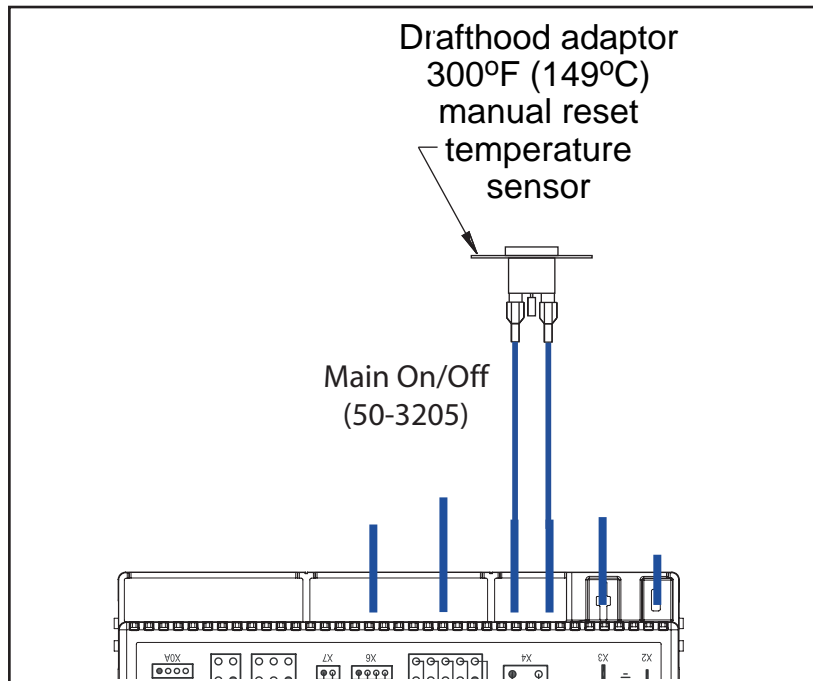

Figure 45: Wiring Diagram for Electrical Connection.
3. Being careful not to run any wiring tight across metal edges; connect them to the valve and "ON/OFF" switch (refer to Figure 45).
The fireplace connections are labelled in Figure 45. When installing the Drafhhood Adaptor onto a fireplace fitted with an intermittent pilot system, remove the Main On/Off wire loop from the IFC and replace it with the drafhhood adaptor wires as shown.
2. Disconnect the spill switch wires from the valve and on/off/remote rocker switch wire (see Figure 45).